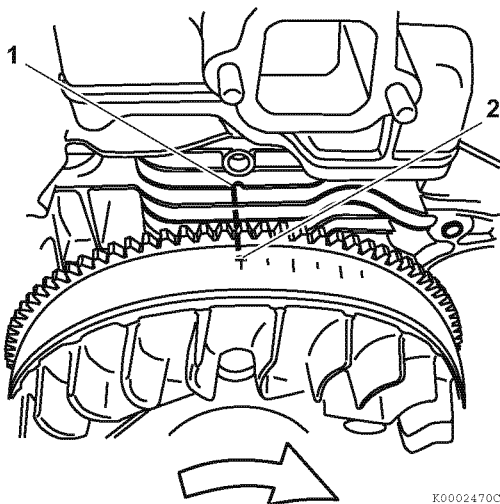

Figure 6-24
1. Rotate the flywheel until the TDC (Top Dead Center) mark on the flywheel (2, **Figure 6-24**) aligns with the left-hand edge of the timing reference “notch” on the cylinder cooling fin (1, **Figure 6-24**).